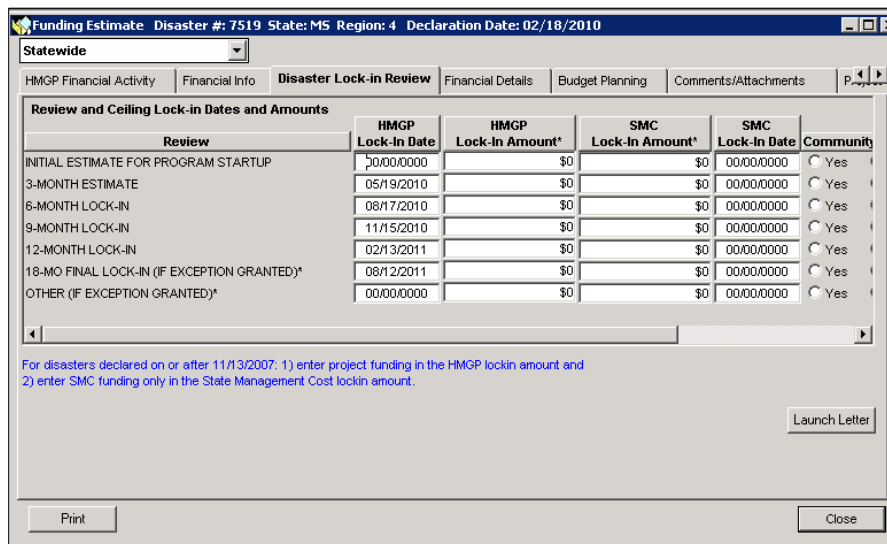

Figure 5-15: Mitigation > Funding > Estimate > Disaster Lock-In Review Tab > Left Side
1. Click the **Disaster Lock-In Review** tab. The Review and Ceiling Lock-in Dates and Amounts table is displayed (Figures 5-15 and 5-16).